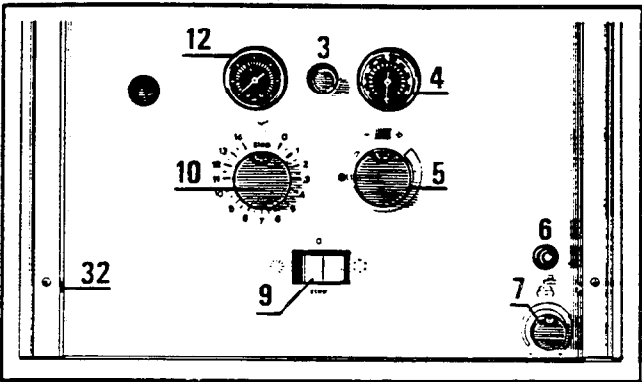

Fig. 18
- Turn gas service tap to left to sign (A).
- With the left hand push in the pilot button (3) (fig. 18). With the other hand push the ignitor button (6) (fig. 18). When the pilot light is established hold the pilot button pushed in for 30 seconds.
- Switch the main electric switch (9) (fig. 18) to start the pump. The firing of the main burner is initiated by the starting of the pump.
Your boiler is designed to give hot water at a temperature of 60° C. with the temperature selector on +, (7) (fig. 18), when a tap is turned on. The maximum flow rate will be : 6 l/min (1.32 gpm) for the 2.20 RSc unit and 8 l/min (1.75 gpm) for the 2.24 RSc unit. It is possible to obtain higher water volumes at lower temperature - to fill a bath for example, turn the temperature selector to the sign - and open the bath tap fully.
Set the boiler thermostat 5 (fig. 18) on the boiler as a function of the external temperature and the required internal temperature.
- In cold weather the boiler thermostat (5) (fig. 18) can be left in the position +.
- Put the control switch (9) (fig. 18) to the summer position « ☉ ». The boiler will now operate only on hot water demand.
- If the pressure on the pressure gauge (12) (fig. 18), falls below 1 bar when cold re-pressurise the installation as follows.
- When pressure is about 1.5 bar (12) (fig. 18) close the fill valve.
To remove the cover (fig. 18)